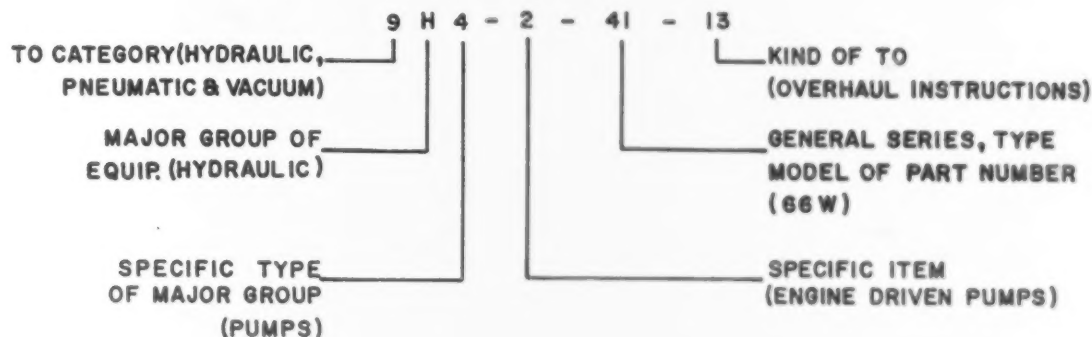

Figure 3-4. Equipment or component technical order number.
Equipment or component technical orders numbers. See figure 3-4 regarding these numbers. We will use TO number 9H4-2-41-13 as our example of a four-part component TO number. The first part consists of three designator—the category, the major group, and the specific type of major group. The first designator is the category. The “9” is the category number, indicating that the TO deals with “Hydraulic, Pneumatic or Vacuum.” The Letter “H” identifies the major group, “Hydraulics, Pneumatic or Vacuum.” The Letter “H” identifies the major group, “Hydraulics.” The number (4) following the major group designates the specific type of major group, “pumps.” Thus, the 9H4 indicates that the TO deals with hydraulic pumps. The second part of our number (-2) is known as the specific item number. In this case it is an engine driven type pump. The third part -41 identifies a general series, type, or model of engine-driven pump. The fourth part of the number identifies the kind of TO as follows: